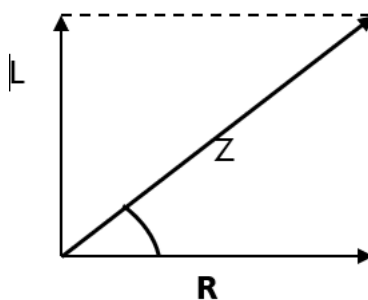
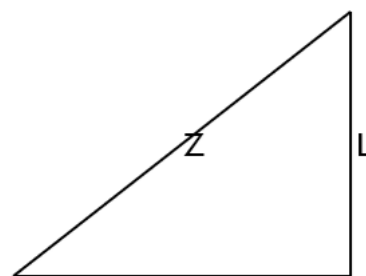

Figure 5.37
Figure 5.38: Resultant triangle
In an ac circuit like this, the resultant opposition to the flow of current is called impedance (Z), which can also be achieved through Pythagoras' theorem as in **Figure 5.37**. **Figure 5.38** is called the resultant triangle.
From **Figure 5.37**, the impedance (Z) is calculated as follows: